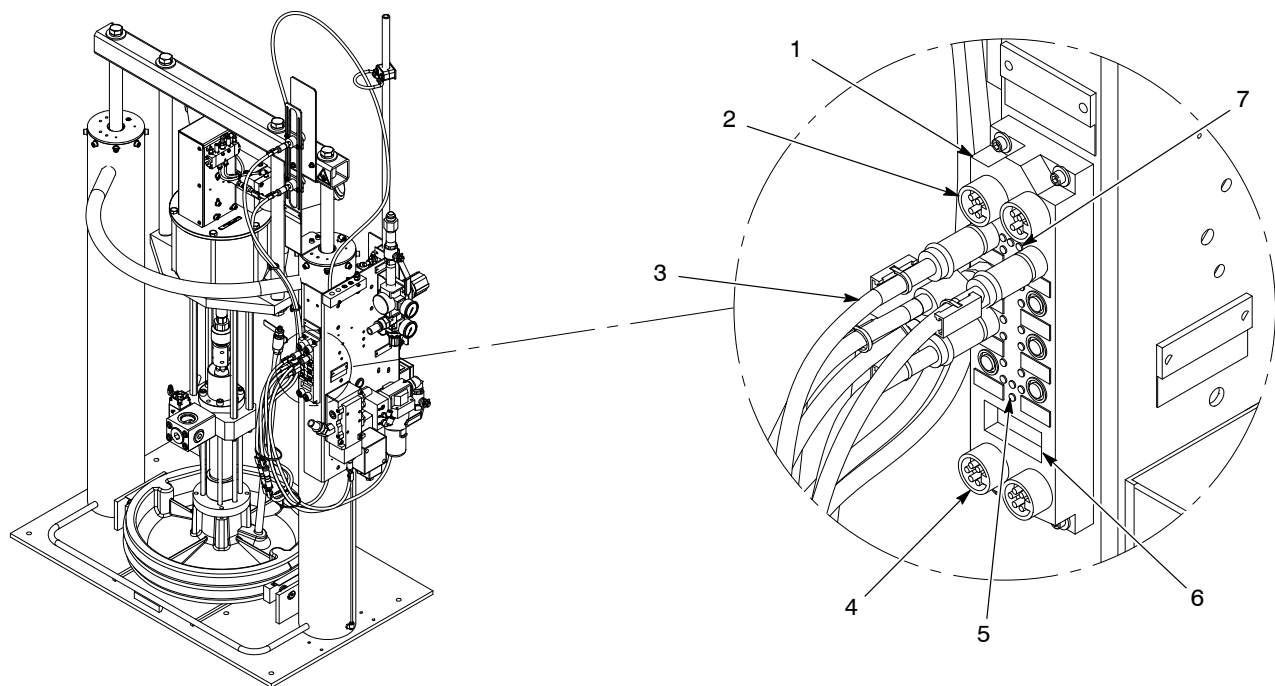

Figure 1 Typical Rhino SD2/XD2 DeviceNet Module
See Figure 1. The DeviceNet I/O module connects to the electrical components on a Rhino® SD2/XD2 bulk unloader through 12-mm micro connector interface cables (3). The DeviceNet station (1) has eight discrete inputs and outputs. The inputs are bus-powered and the outputs are auxiliary-powered. Refer to the *Inputs and Outputs* section for a description of each input and output.